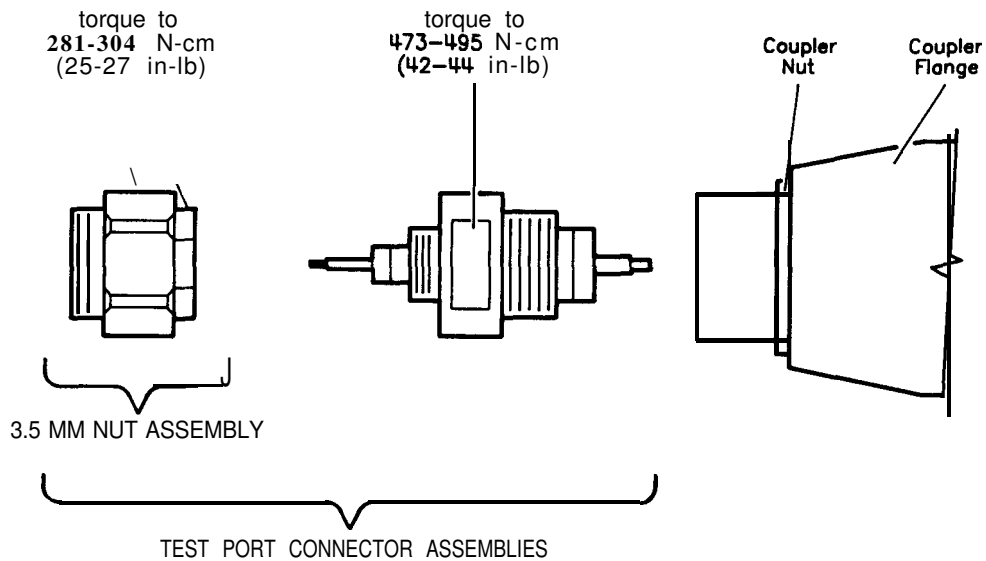

Figure 5-8. Exploded View of the 3.5 mm Port Connector
Refer to Figure 5-8 and the following text to replace or repair these 3.5 mm test port connectors.
2. Replace with a new test port connector assembly using a 5/8 inch torque wrench to the limits called out in Figure 5-8.
3. Torque with a 9/16 inch torque wrench to the limits set in Figure 5-8.